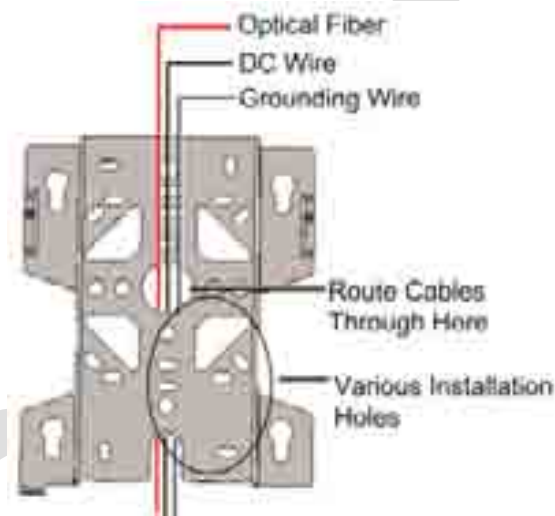

Figure 5-64. Routing Connection Cables through Bracket
2. Route the connection cables through center of the Mounting Bracket. See Figure 5-64.